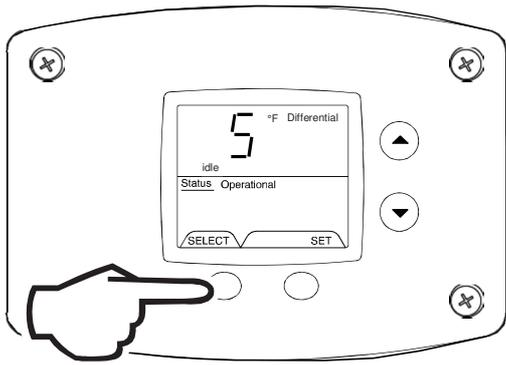

Fig. 36
- Differential (Display only – shows the differential of the thermostat) (Fig. 36).